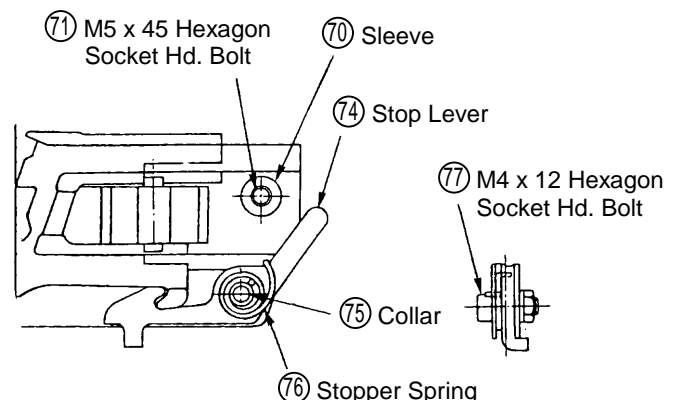

Fig. 18 Reassembly of the Stop Lever, Stopper Spring, etc.
(b) Reassembly: (see Fig. 18)
- As illustrated in Fig. 18, insert the Collar (75) into the Stop Lever (74), and mount the Stopper Spring (76) with the M4 x 15 Hexagon Socket Hd. Bolt (77) (see Para. 1-4 for tightening torque). At this time, the Stopper